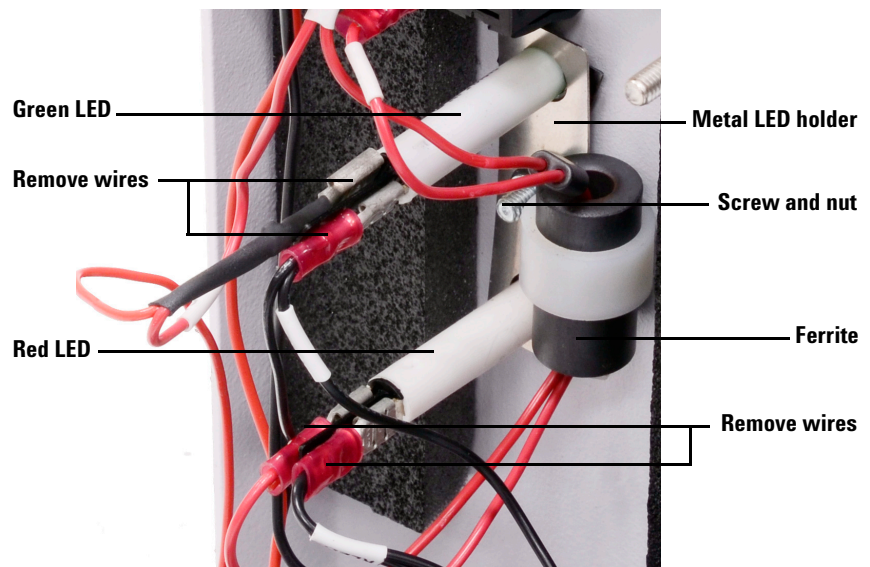

Figure 14 LED connectors (G6011A shown.)
- 2 Remove the + and – wires (marked **GLED+/-** or **RLED+/-**) from the faulty LED (Figure 14).
- 3 Remove the nut from the screw that secures the metal LED (Figure 14).